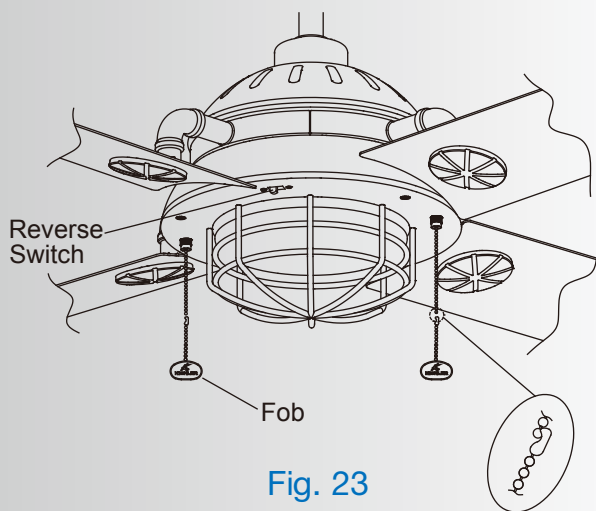

Fig. 23
**Step 1.** Attach the decorative pull chain fobs to the chains coming out of the light case. Refer to Fig. 23.